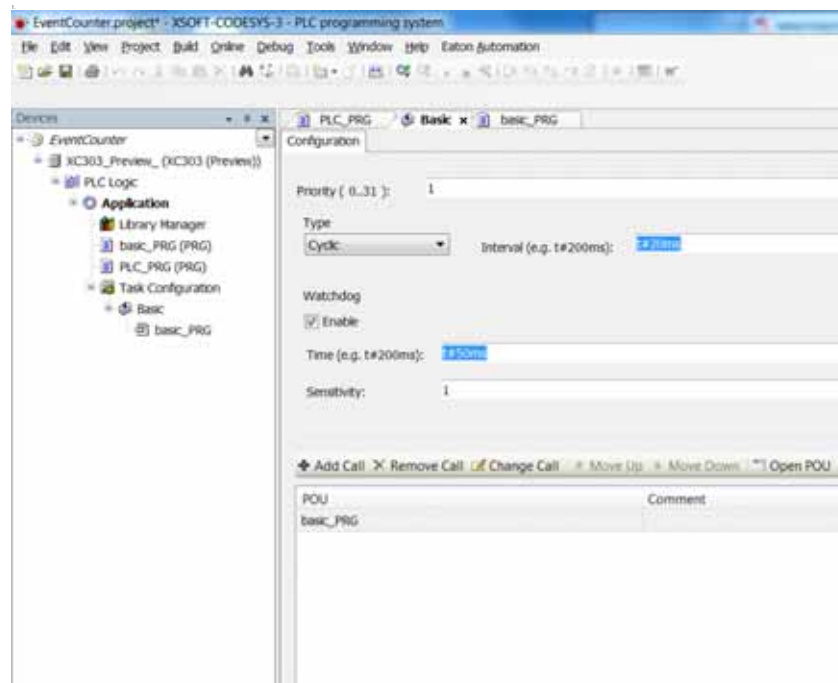

Figure 36: Configuring the cyclic task with program call
- ▶ Set the task in the dialog as in figure 36.